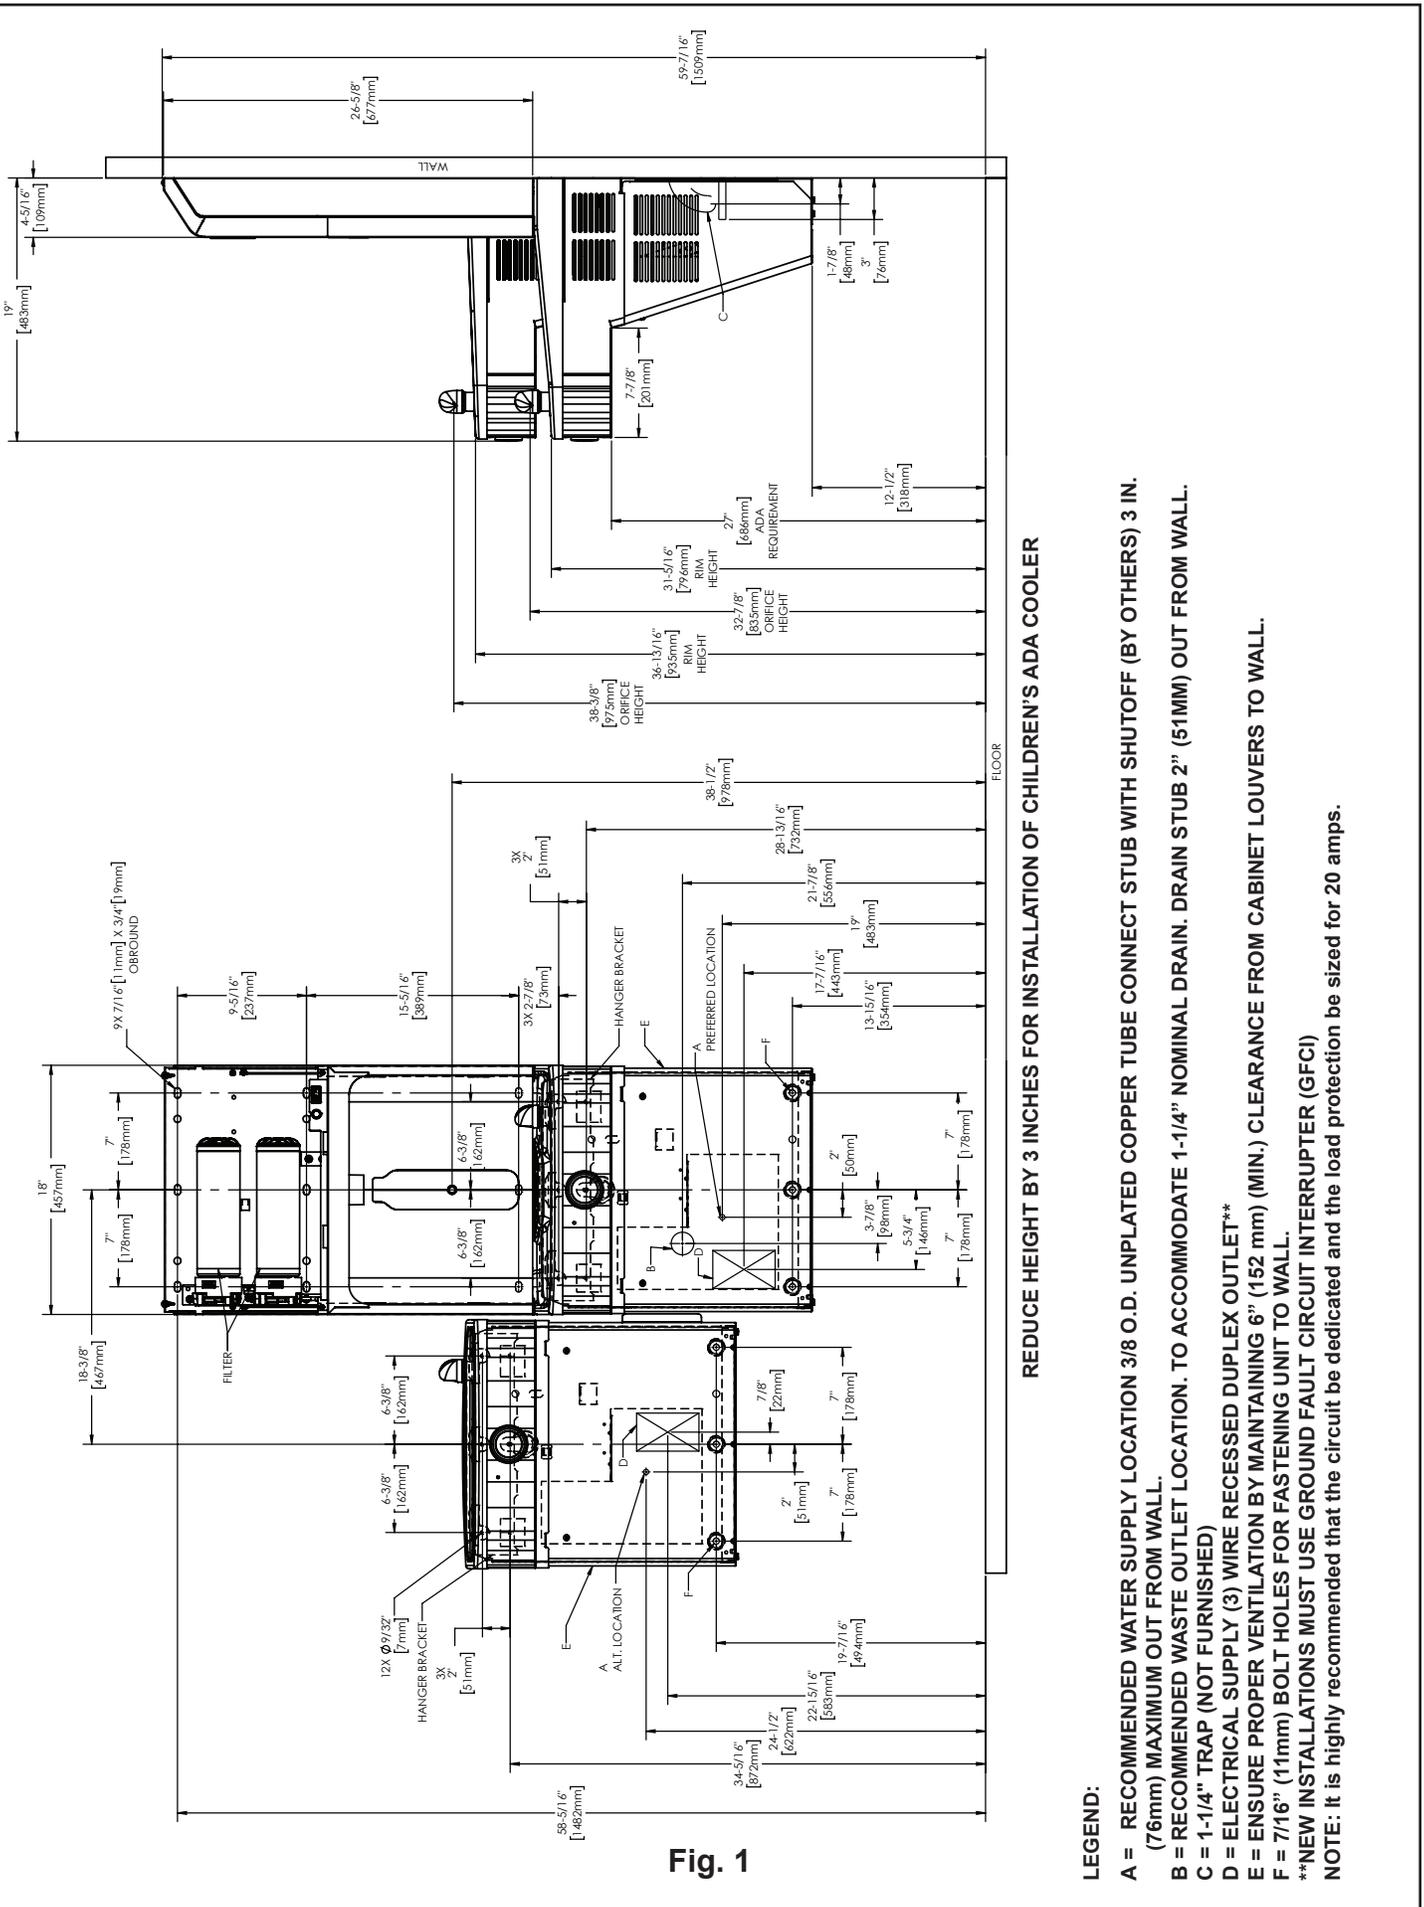

Fig. 1
Mount the hanger brackets as shown in Figures 1 (Pg. 7).
1. Hang the cooler on the hanger bracket. Be certain hanger bracket is engaged properly in the slots on the cooler back as shown in Fig 1 (Pg. 7).
3. Hang only the refrigerated cooler on the hanger bracket. Be certain hanger bracket is properly in the slots on the cooler backs as shown in Fig 1 (Pg. 7).
4. Hang the non-refrigerated cooler on the hanger bracket. Be certain hanger bracket is engaged properly in the slots on the cooler backs as shown in Fig 1 (Pg. 7).
5. Secure each cooler frame to wall by installing (2) screws and washers (not supplied) in lower holes. See reference figures in page 10.